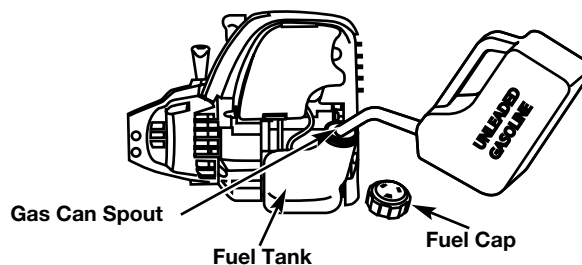

Fig. 5
1. Remove the fuel cap (Fig. 5).
2. Place the gas container's spout into the fill hole on the fuel tank (Fig. 5) and fill the tank.